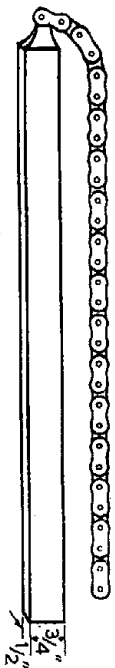

FIG. 29.—CHAIN BAR.
- (1) The clutch cable.
- (2) The four nuts fixing kick-starter-case cover and withdraw, leaving the kick-starter crank and foot-change pedal in position. Fit a rubber band between the kick-starter crank and foot-change pedal to prevent the kick-starter spring unwinding.
- (3) The clutch lever in the kick-starter-case cover, also the short push rod. Watch for the  $\frac{1}{4}$  in. steel ball used between the short and long push rods.
- (4) The kick-starter pinion nut; pull off the pinion and spring.
- (5) The four nuts fixing the kick-starter case to the gearbox shell.
- (6) The kick-starter case. Watch for the twelve rollers on the camshaft.
(7) The slotted bolt at bottom of the gearbox shell, with its spring, which operates the pawl.
(8) The whole of the gears and layshaft, except the main driving gear, with camshafts.
(9) The rear chain. The mainshaft can now be withdrawn from the clutch end of the gearbox. Using a chain bar, which is simple to make (Fig. 29), with a short length of  $\frac{1}{8}$  in.  $\times$   $\frac{3}{8}$  in. chain attached, drape the chain round the sprocket, with the bar propped against the frame. Should it be inconvenient to make a tool of this kind, leave the chain attached and apply pressure on the brake pedal to release the sprocket-fixing nut after turning
The nut securing the rear-chain sprocket is firmly tightened, therefore some difficulty may exist in holding the sprocket during this process. The chain bar (Fig. 29) is the tool for this job, fitted on to the sprocket, with the bar propped against the frame after disconnecting the rear chain.